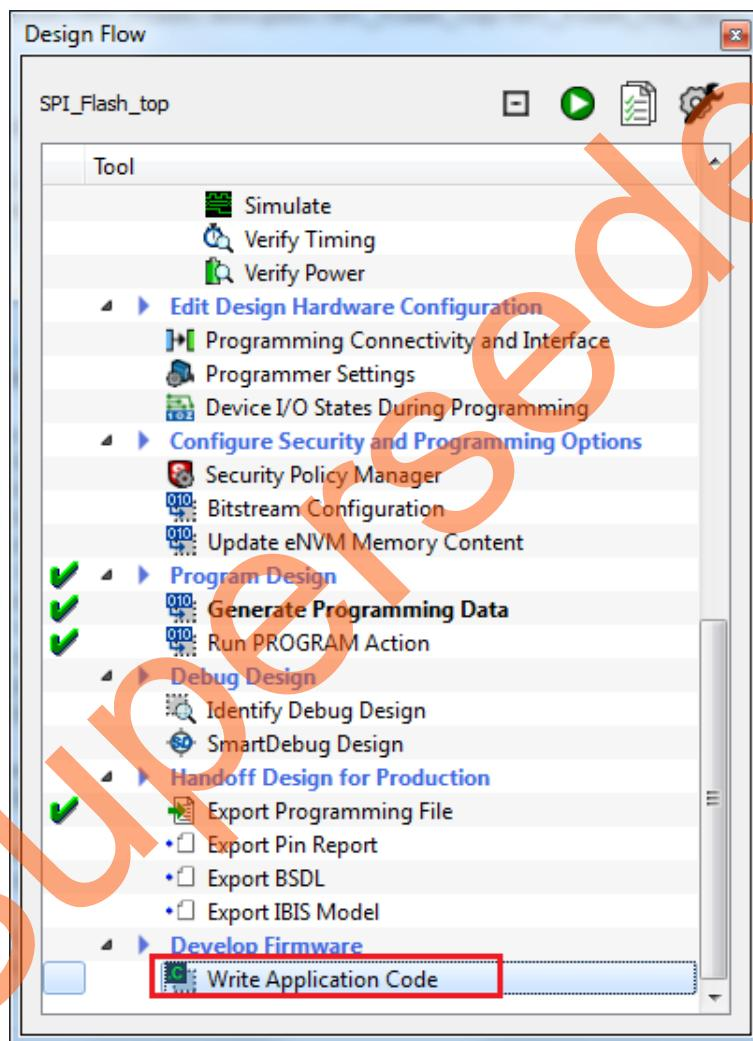

Figure 20 • Invoking IAR Embedded Workbench from the Libero SoC Software
2. Open the IAR project by double-clicking **Write Application Code** under Develop Firmware in the Design Flow window as shown in Figure 20.